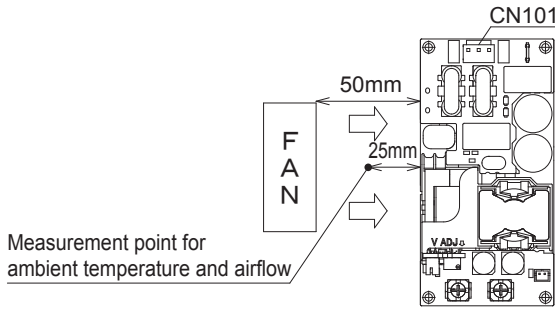

Fig.3.2 Recommended cooling condition
- For reliable and safe operation, please make sure the maximum component temperatures rise given in table 3.1 is not exceeded. Please refer to Fig.3.2 for recommended cooling condition. Operating at the maximum temperature rating results in 3-Years life expectancy. The actual life expectancy can be extended by reducing the ambient temperature. Please refer to section 5 for more information.